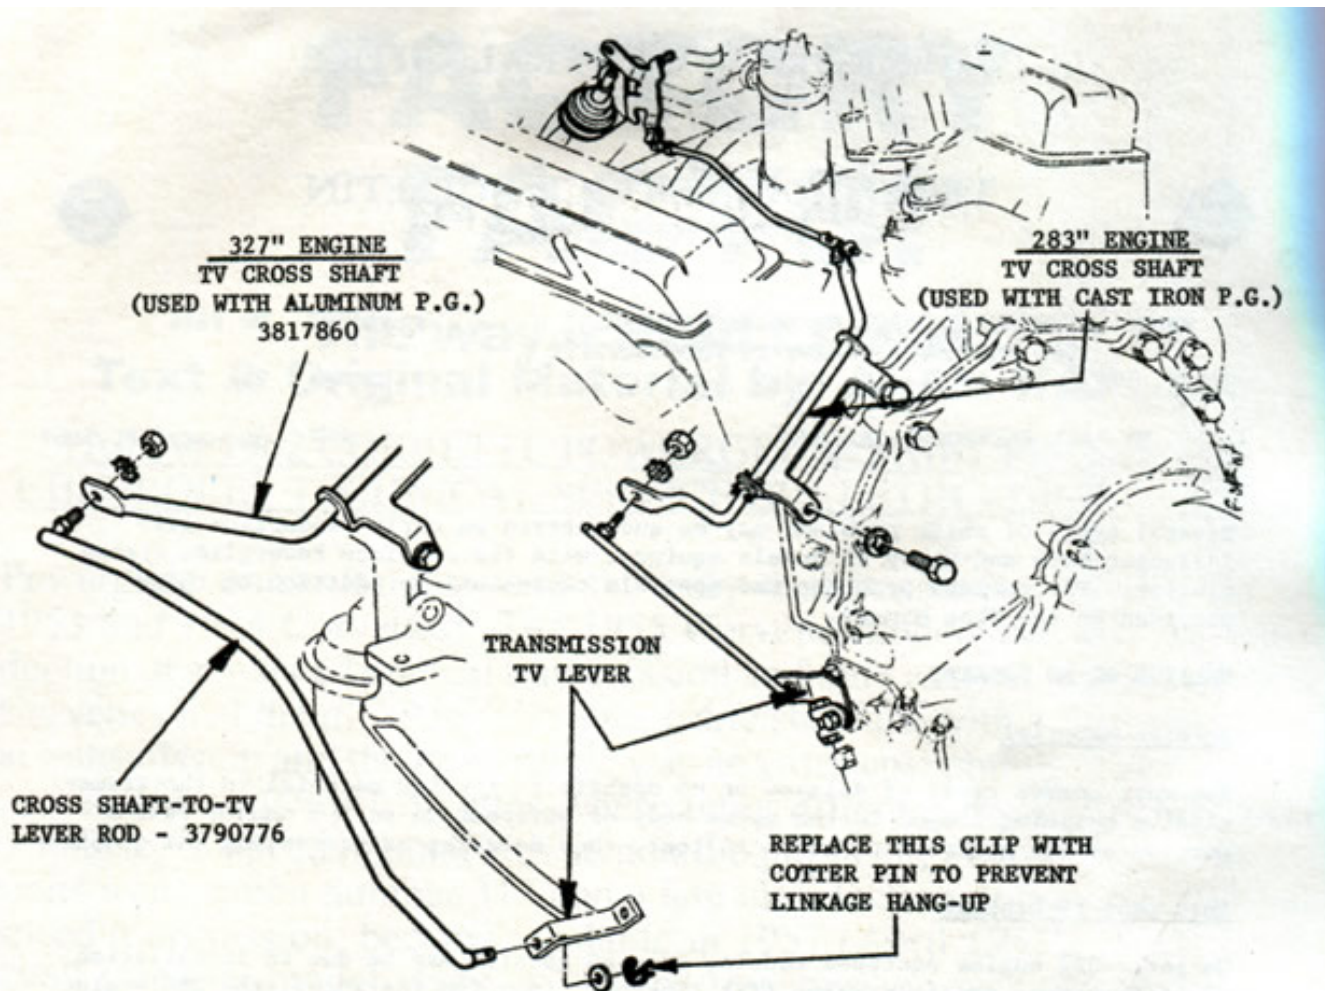

FIGURE 1- 327 AND 283 POWERGLIDE TV LINKAGE COMPARISON
On early 327 engine equipped models, delayed upshift may be due to installation of an incorrect throttle valve (TV) linkage. In a few instances, the 283 engine cross shaft was installed instead of the correct TV cross shaft, 3817860. The TV cross shaft are easily identified as the 283 version has a bend in its outboard lever whereas the 327 cross-shaft lever is straight in this same area. (Figure 1). If the TV cross shaft was incorrect, also check the cross shaft-to-TV lever rod. As shown in Figure 1, this rod, 3790776, is formed on 327 engine applications as compared to the straight rod used on 283 engine versions.